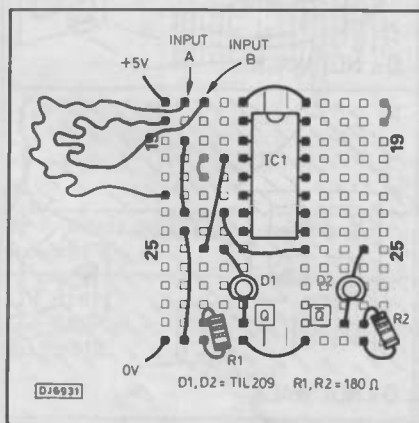

Fig 13. Bread board layout of the circuit in Fig 12.
The bread-board layout (Fig.13) shows that the inputs that are not cross-connected are held high, by being connected to  $V_{CC}$  (+5V). We use two leds to indicate the states of the outputs.
1. Set up the circuit as in Fig.13.